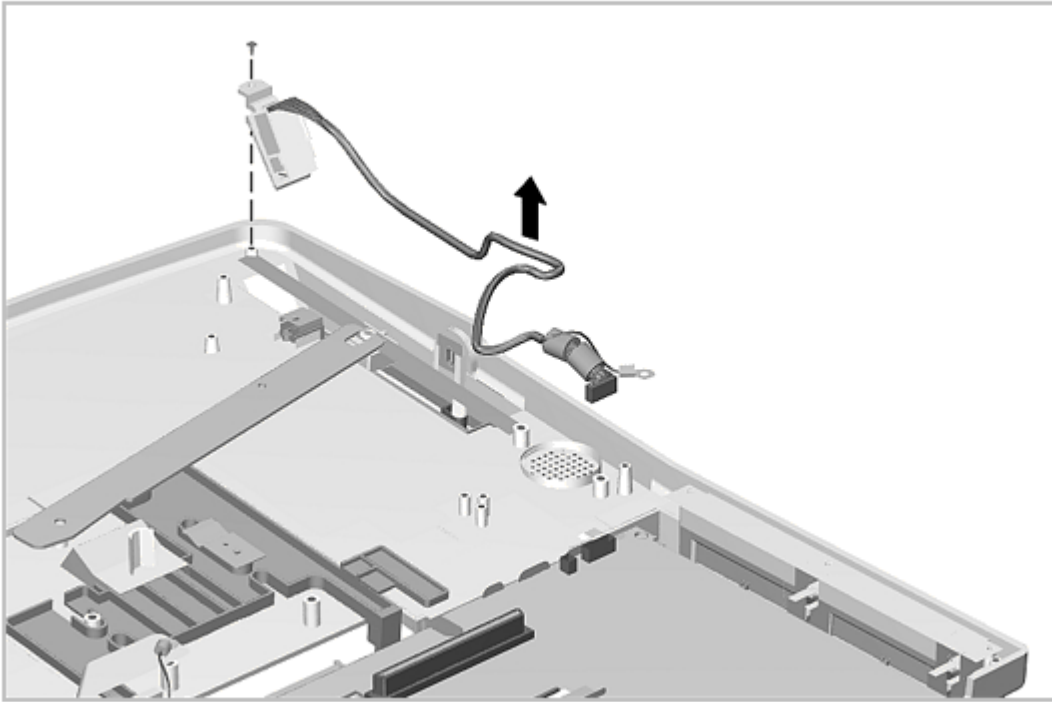

Figure 7-28. Removing the Power Switch Assembly
4. Remove the screw holding the power switch board in place and lift the board out (Figure 7-28).